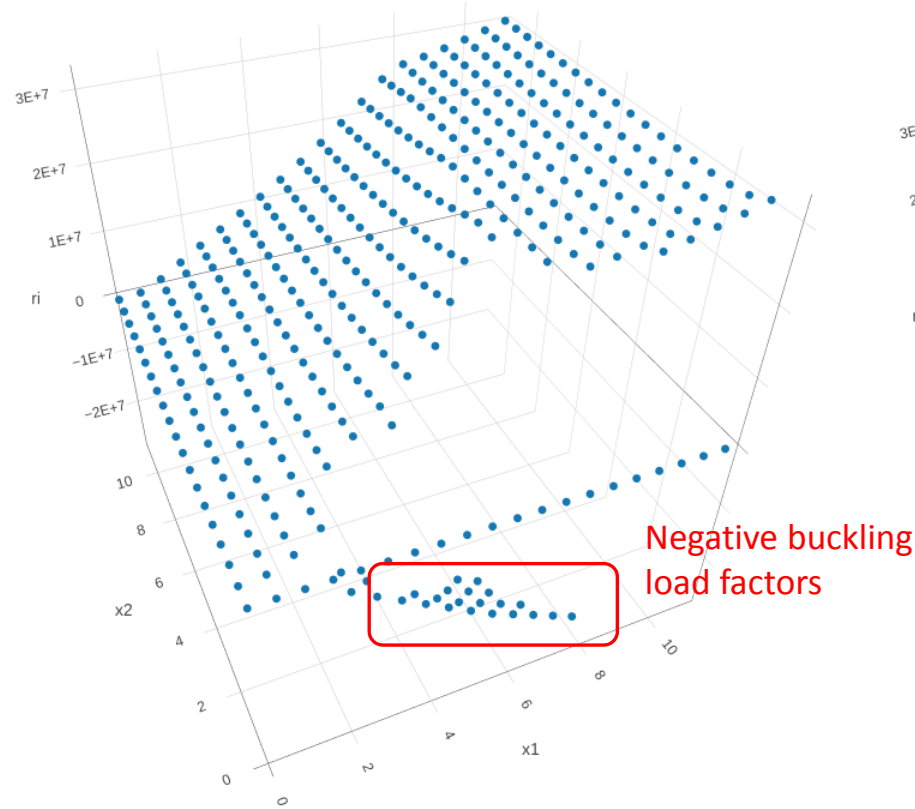

Figure 1: $BLF = \text{MIN}(r1, r2, \dots, ri)$
1. For the optimization, consider using the absolute value, e.g. $ABS(BLF)$. Refer to figures 1 and 2. This tutorial used the absolute value of the BLF.